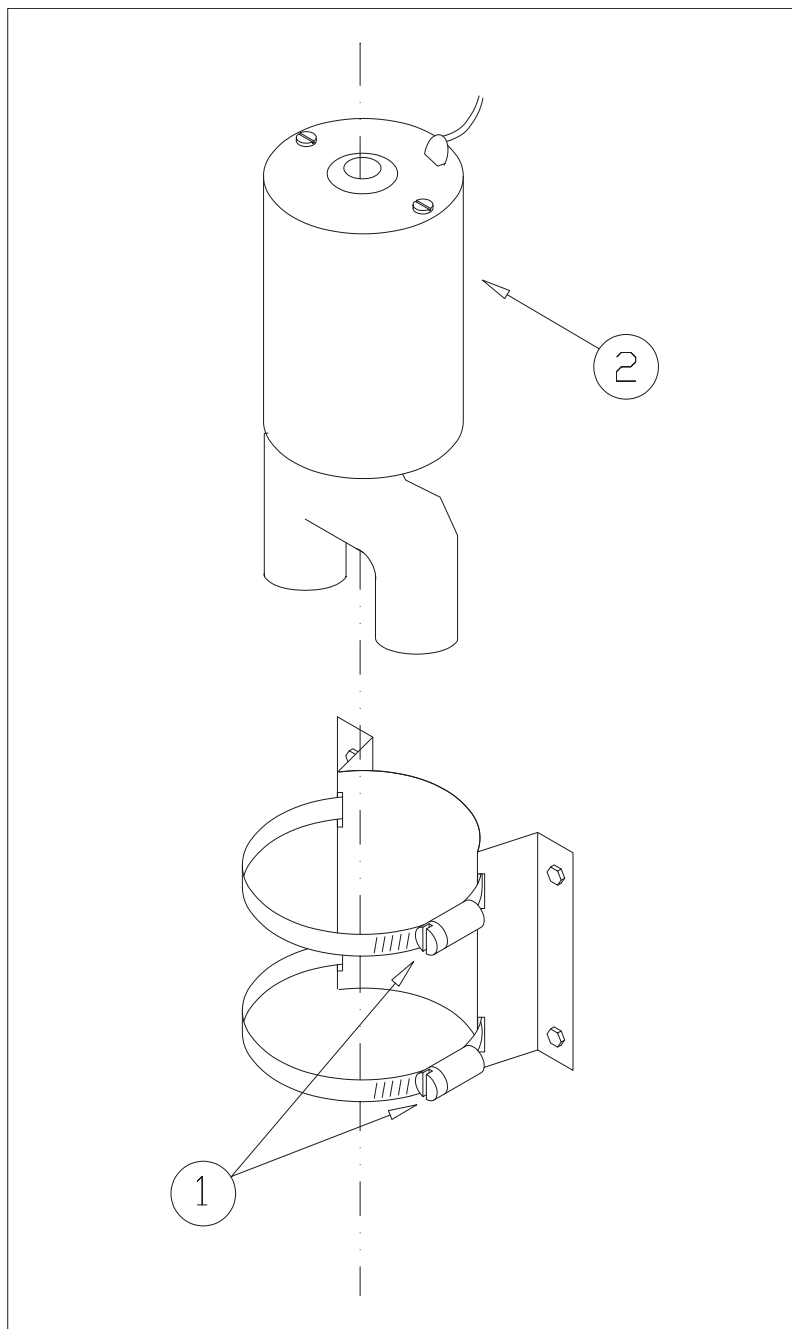

Figure 11 Boost Pump Removal/Installation
- 3 Loosen the screw clamps (1, Figure 11).
- 4 Remove the boost pump (2).